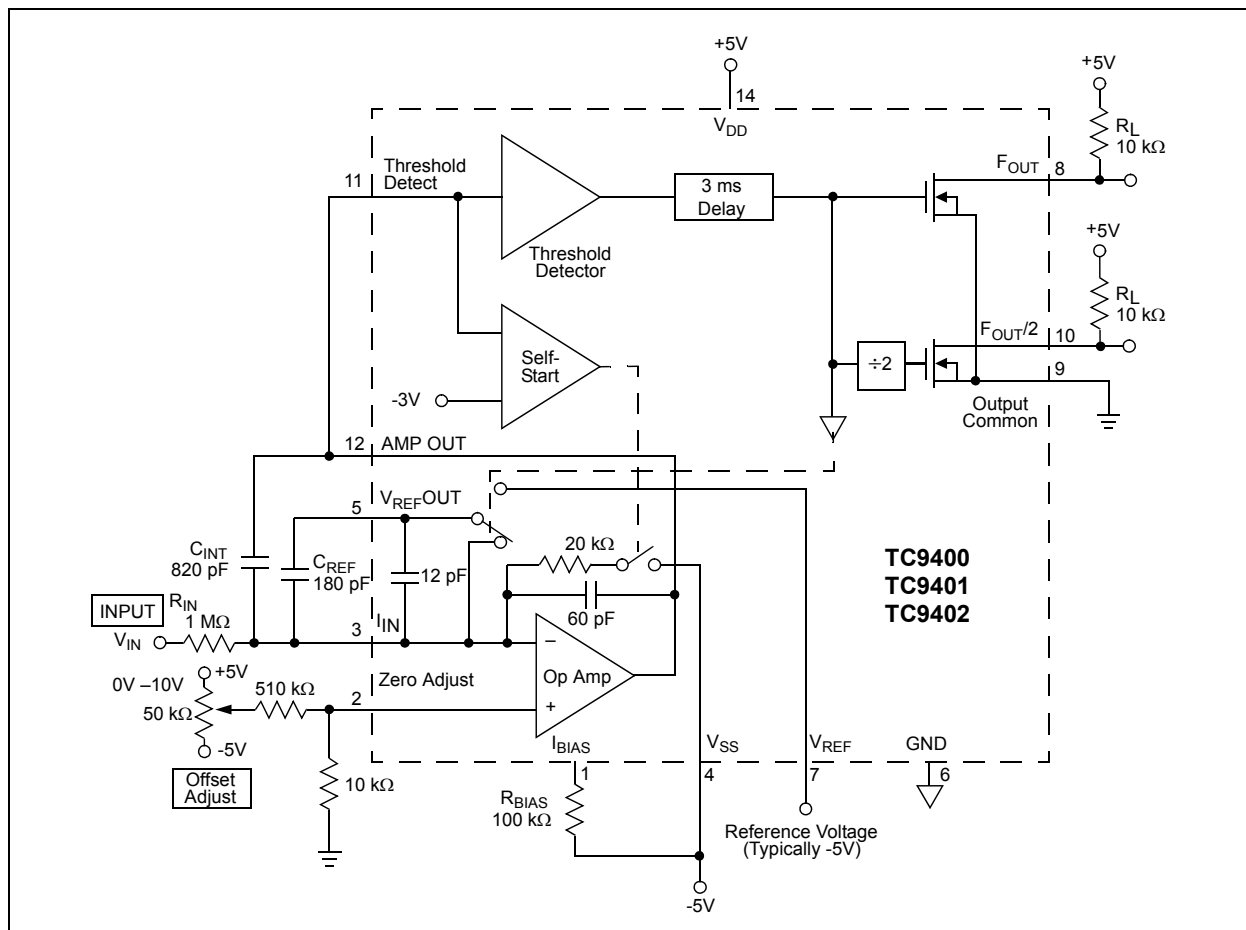

FIGURE 3-1: 10 Hz to 10 kHz V/F Converter.
The TC9400 V/F converter operates on the principal of charge balancing. The operation of the TC9400 is easily understood by referring to Figure 3-1. The input voltage ( $V_{IN}$ ) is converted to a current ( $I_{IN}$ ) by the input resistor. This current is then converted to a charge on the integrating capacitor and shows up as a linearly decreasing voltage at the output of the op amp. The lower limit of the output swing is set by the threshold detector, which causes the reference voltage to be applied to the reference capacitor for a time period long enough to charge the capacitor to the reference voltage. This action reduces the charge on the integrating capacitor by a fixed amount ( $q = C_{REF} \times V_{REF}$ ), causing the op amp output to step up a finite amount.
**Figure 3-1** shows a circuit for trimming the zero location. Full scale may be trimmed by adjusting  $R_{IN}$ ,  $V_{REF}$ , or  $C_{REF}$ . Recommended procedure for a 10 kHz full scale frequency is as follows: